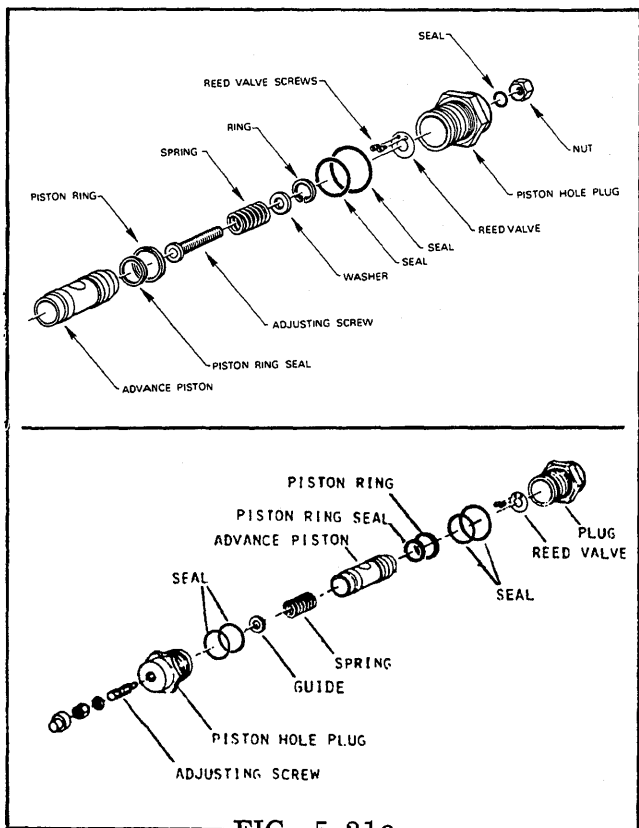

FIG. 5.21a
STEP 21 Assemble the auto advance components (Fig. 5.21a). Place the reed valve into the piston hole plug and insert and tighten two reed valve screws, using a 5/64" hex key wrench to the specified torque. Install the piston ring seal, and ring in the groove of the advance piston. Complete assembly as shown in Fig. 5.21a.
Tighten the advance plugs to the specified torque (Fig. 5.21a and 5.21f).